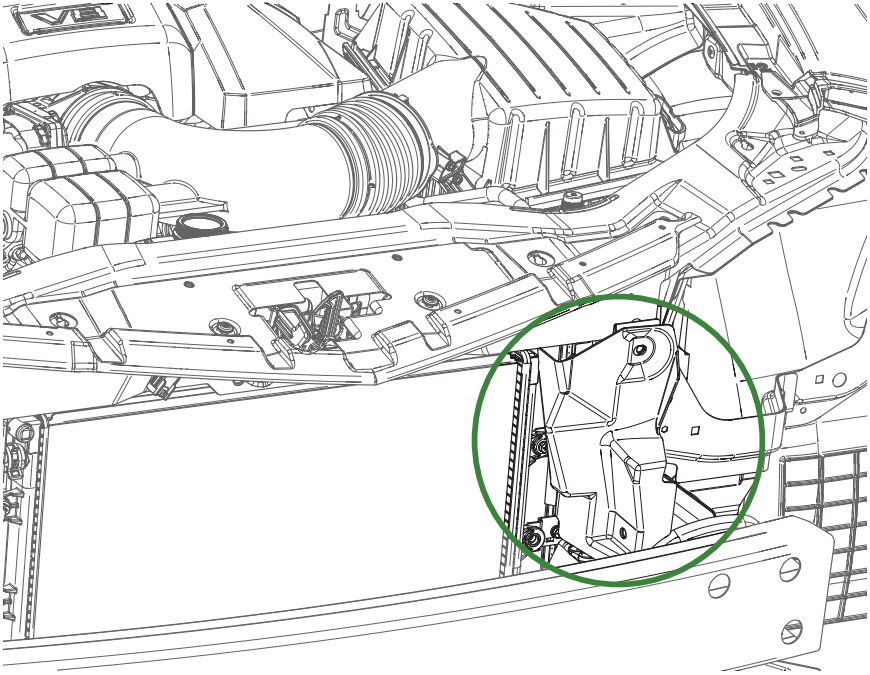

Figure 19 - Black Plastic Shroud to Peel-Back & Route Hoses
26. Peel-back the black plastic shroud, circled **green** in Figure 19, and route the system lines up towards MHX-245.